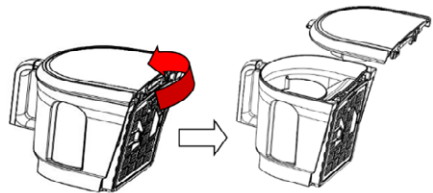
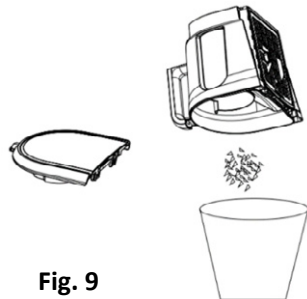

Fig. 8
Fig. 9
3. As in **Fig.8**, put the dust canister onto the rubbish bin: Push the release button to open the the dust chamber and drop dust into the bin (**Fig.9**).